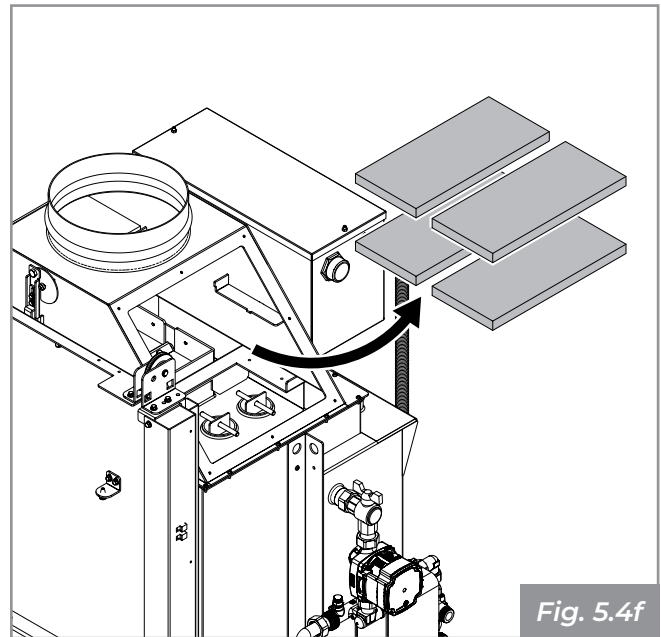

Fig. 5.4f
- Pull out the four magnofix fume deflectors and eliminate any soot residues (**Fig. 5.4f**);